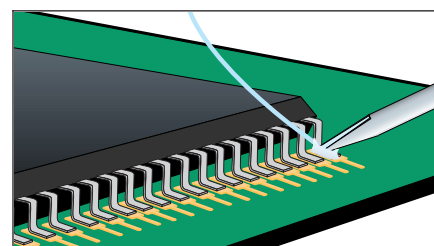

Figure 2 Tack Lead
4. Apply flux and tack solder opposing corner leads. (See Figure 2.)